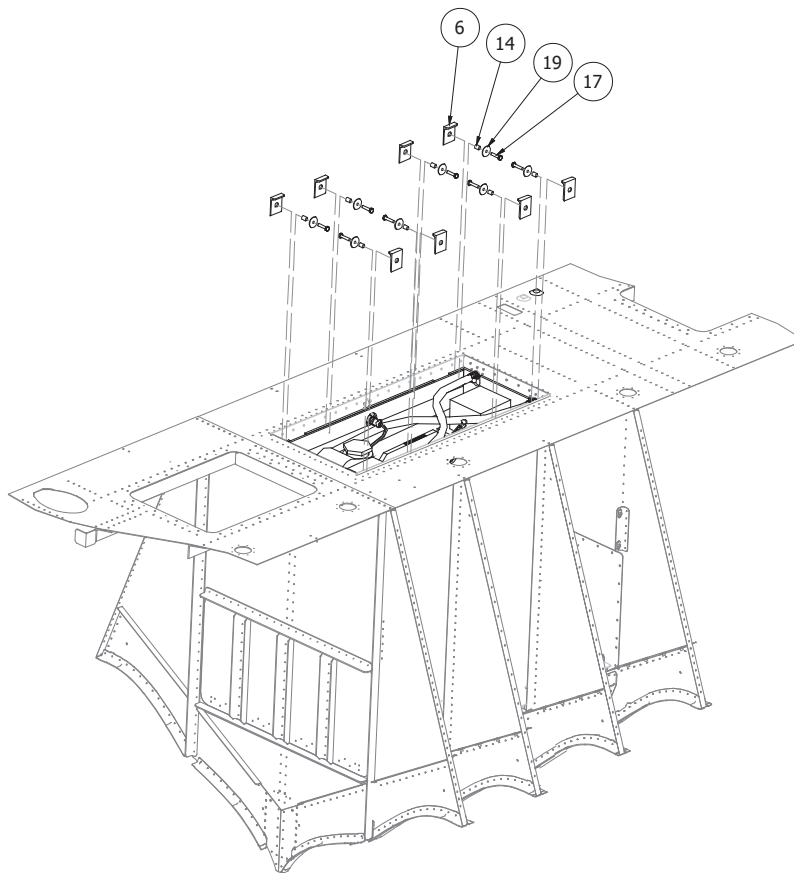

Figure 10
6. Install the noted shims between the tank and the baggage lip, secure the tank with noted fasteners per Figure 10.